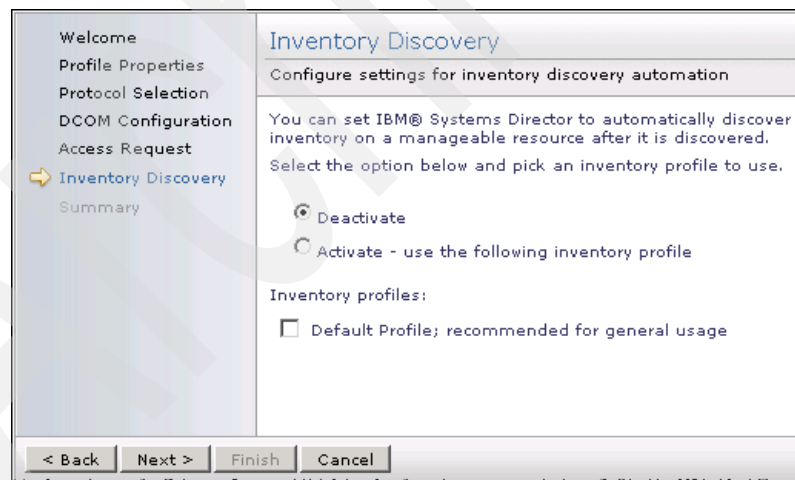

Figure 9-14 Advanced Discovery Wizard: Inventory Discovery
6. In the Inventory Discovery panel, select **Deactivate**, and click **Next** as shown in Figure 9-14.